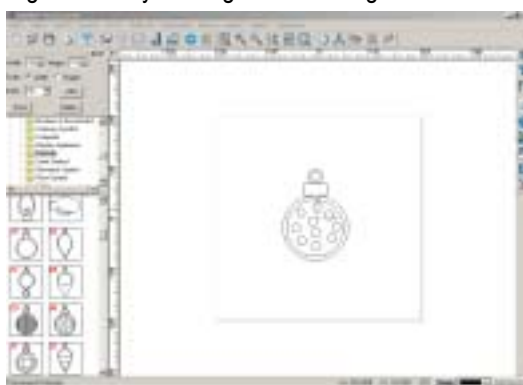

Fig. 12-2
2. Click on the shortcut icon  in **Editing Mode Bar** or click **Draw->Symbol library** command in the menu bar. Then the symbol library is displayed on the left of the drawing window. Drag a symbol into the drawing window by clicking it and holding the left mouse button. (Fig. 12-2)